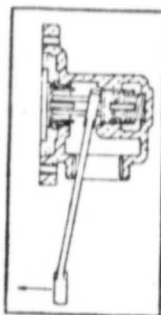

Figure 19 (From below)
10. Pushing the seating assembly all the way in, insert a 1/2" open end wrench into the discharge opening of the Relief Valve so that the wrench locks the spring assembly in the compressed position. (Figure 19.)